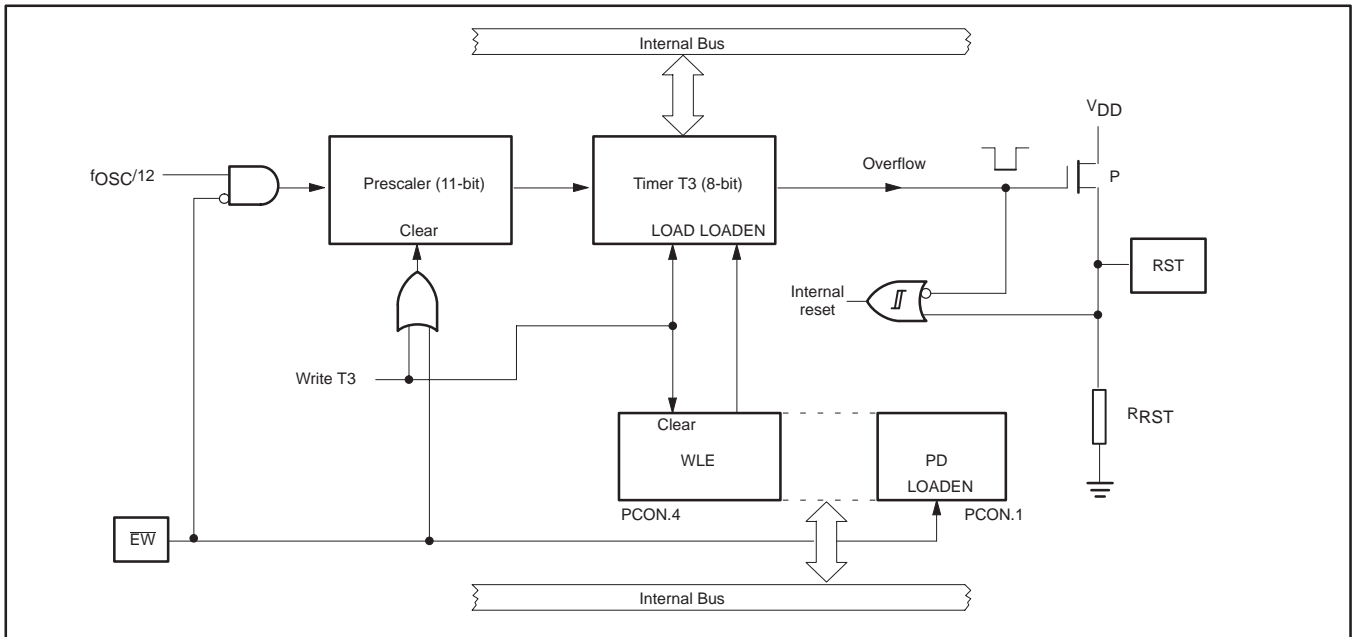

Figure 9. Watchdog Timer
**Watchdog Circuit Description:** The watchdog timer (Timer T3) consists of an 8-bit timer with an 11-bit prescaler as shown in Figure 9. The prescaler is fed with a signal whose frequency is 1/12 the oscillator frequency (1MHz with a 12MHz oscillator). The 8-bit timer is incremented every “t” seconds, where: